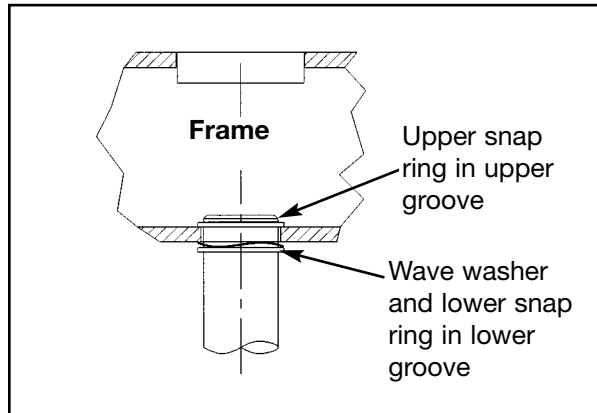

Figure 6
**L.** Raise guide rod up through mounting hole and install the upper snap ring into the upper groove of the guide rod. See Figure 6.
**M.** Lower guide rod and secure wave washer and lower snap ring. See Figure 6.